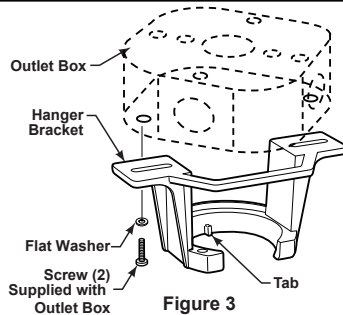

Figure 3
- ☐ 1. Securely attach the hanger bracket to the outlet box (not included) using the outlet box screws and washers supplied with the outlet box. (Figure 3)